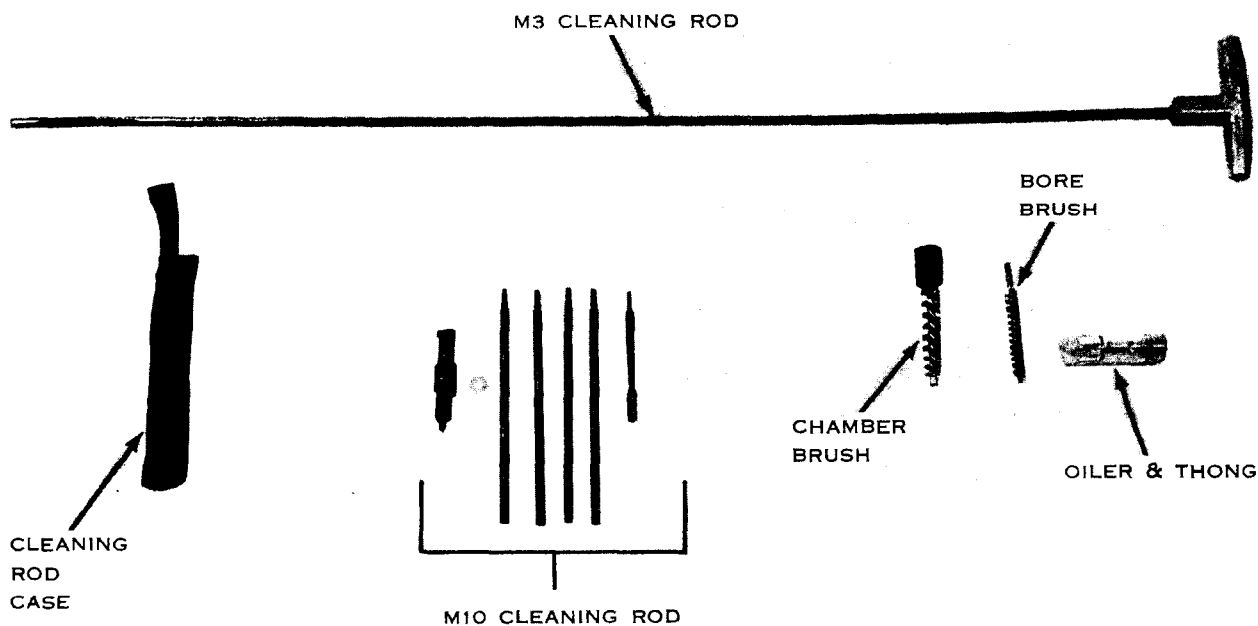

Figure 34. Cleaning equipment.
c. *Equipment.* A complete set of maintenance equipment (figs. 34 and 35) is stored in the stocks of the M1 and M1C rifles and consists of—
- (1) M10 cleaning rod (4 sections with handle and plastic buffer).
- (2) Small arms bore cleaning brush.
- (3) Lubricant case.
- (4) Chamber cleaning brush.1
- (5) Cleaning rod case.